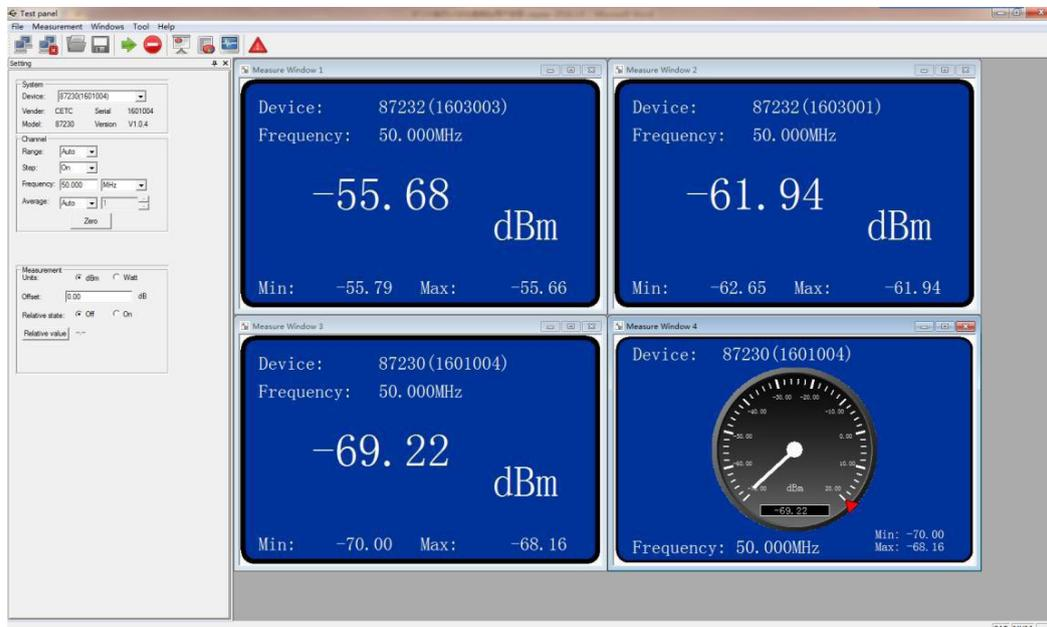

Fig. 3.6 Measurement window connected with multiple USB CW power sensors
Step 2. Click  or  button of the toolbar, and open the measurement result of other power sensor in form of value display or analog display, as shown in Fig. 3.6;